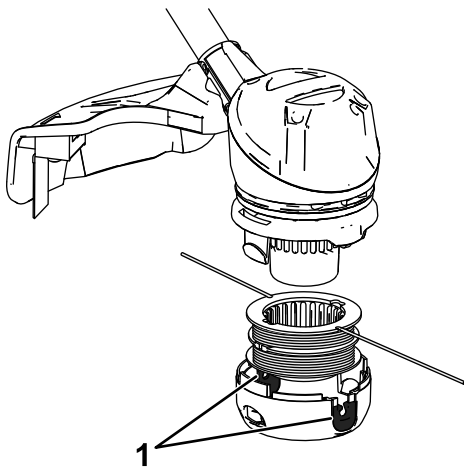

Figure 16
8. Install the spool into the cover and route the ends of the string through the holes in the cover as shown in Figure 16.